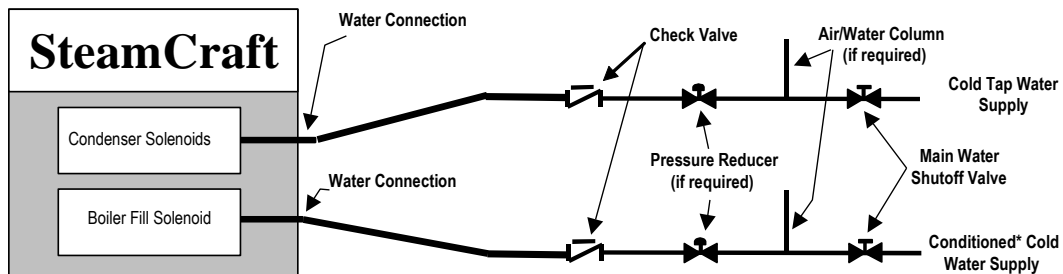

Figure 3-4 Cleveland Range Separate Water Supply Arrangement
- d. If the water supply fails to meet the requirements shown in the Warranty, then use the Separate Feed Water Supply Arrangement shown in Figure 3-4.